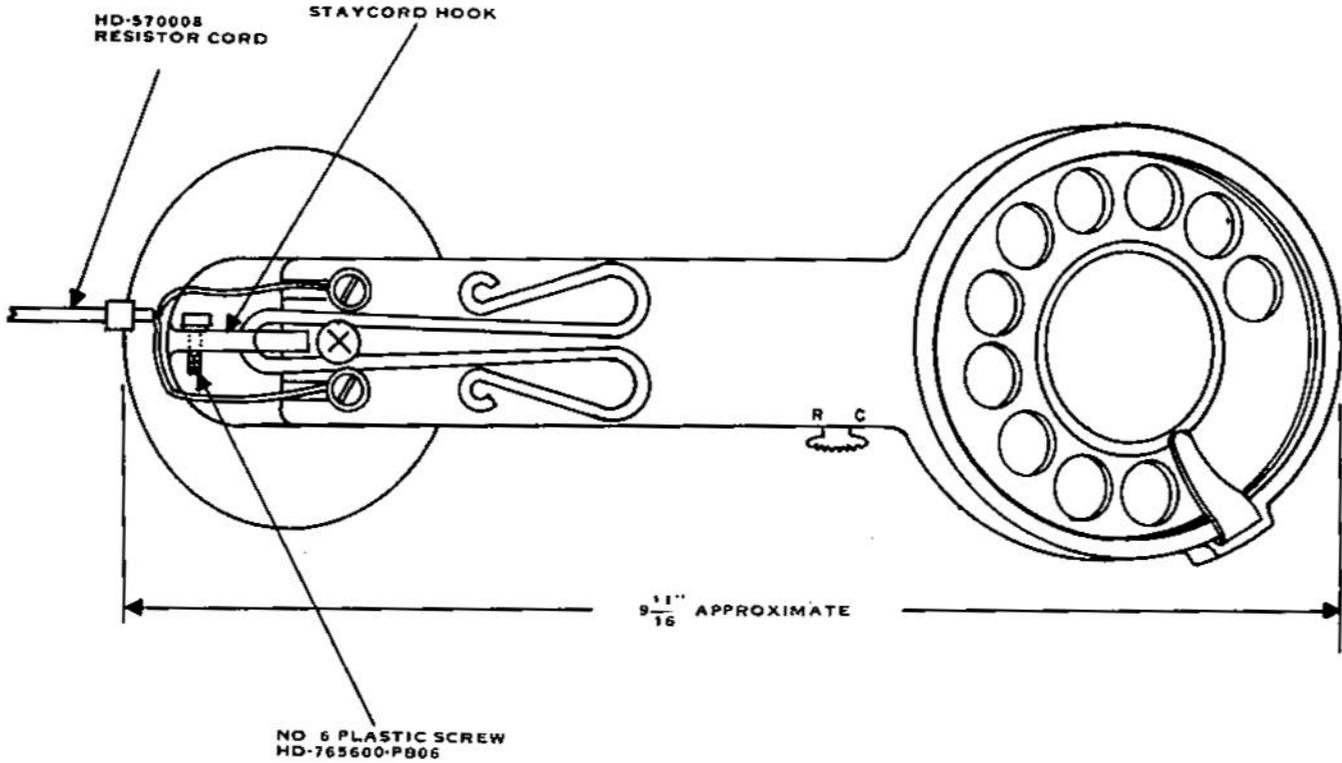

Figure 3. Modification for Resistor Plug Addition.
- (a) Drill a 0.116-inch pilot hole for a No. 6 plastite screw (HD-765600-PB06). (Refer to Figure 3.)
| HD-540019-B  | A 5-foot-long, two-conductor cord, one end terminated with a four-contact plug (Figure 3) for insertion into switch test jacks, the other end terminated with a jack to mate with the plug of the HD-570008-A cord. A pushbutton on the four-contact plug is used to short two of the contacts on the switch being tested.   |
| HD-540016-B  | A 5-foot-long, two-conductor cord, one end terminated with a two-contact plug (Figure 3) for insertion into switch jacks, the other end terminated with a jack to mate with the plug of the HD-570008-A cord.  |
| HD-540045-A  | A 5-foot-long, two-conductor cord, one end terminated with a switchboard type plug, the other end terminated with a jack (Figure 3) to mate with the plug of the HD-570008-A cord. This cord is used for test of central office and PBX equipment accessed by test or patch jacks.   |
| HD-540062-A  | A 4-foot 4-inch-long, two-conductor cord (Figure 3), one end terminated with banana plugs, the other end terminated with a jack to mate with the plug of the HD-570008-A cord.   |